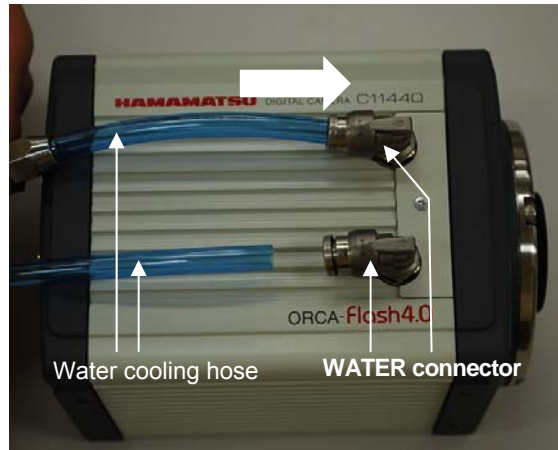

Figure 8-3
- (1) Place the camera on the stable table.
- (2) Connect water cooling hose into the WATER connector on the camera.
- Insert the hose fully into the WATER connector on the camera (as shown in Figure 8-3)
- (3) Set the camera onto a microscope (If the camera is used on the microscope).